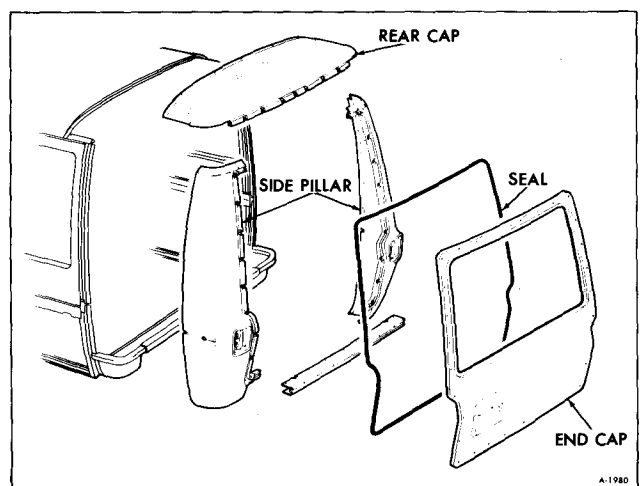

Figure 43—End Cap Components
3. Remove end cap to body retaining screws (32) from end cap (See figure 43).